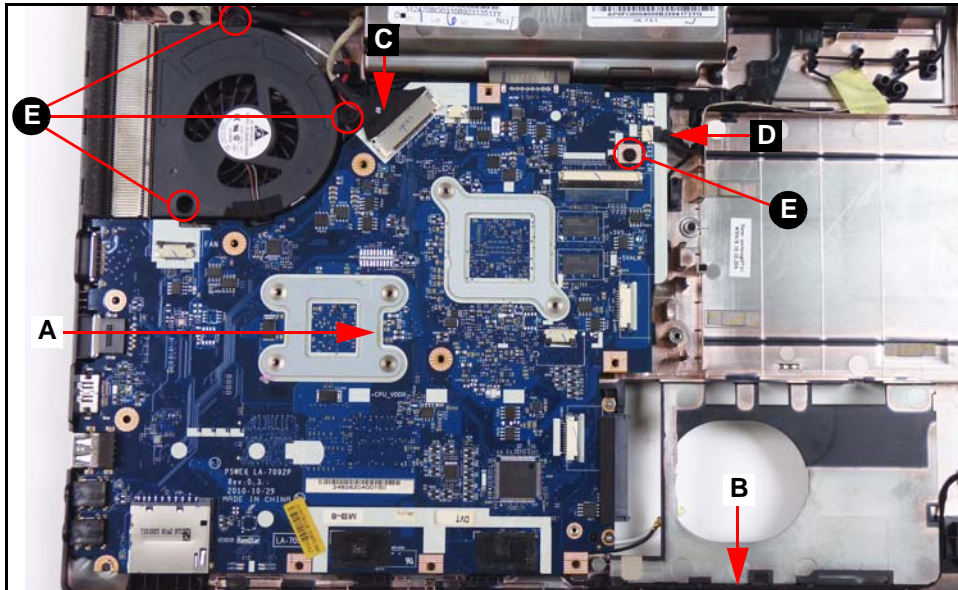

Figure 3-28. Mainboard Location
1. Find mainboard (A) on lower cover. (Figure 3-28)
2. Remove Bluetooth cable (B) from cable guides. (Figure 3-28)
3. Disconnect LVDS cable from mainboard connector (C). (Figure 3-28)
4. Disconnect microphone cable from mainboard connector (D). (Figure 3-28)
5. Remove four (4) screws (E) from the mainboard and thermal module. (Figure 3-28)
11. Disconnect Bluetooth cable from mainboard connector (G). (Figure 3-28)
5. Put mainboard into lower cover. (Figure 3-28)
6. Install and secure four (4) screws (E) to mainboard. (Figure 3-28)
7. Connect LVDS cable (C) to mainboard connector. (Figure 3-28)
8. Connect microphone cable (D) to mainboard connector. (Figure 3-28)
9. Put Bluetooth cable (B) into cable guides. (Figure 3-28)